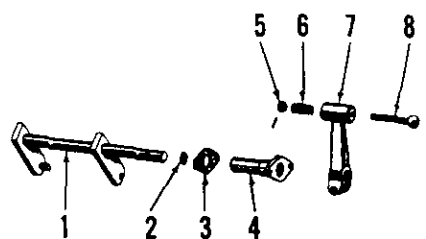

Fig. 131—Exploded view of the dual speed shifter located on right side of the clutch housing.
189. R&R DUAL SPEED SHIFTER. To remove the pto dual speed shifter, remove countershaft as outlined in paragraph 188. Loosen pinch bolt and remove operating lever (7—Fig. 131) from shaft. Remove bracket (4), shifter